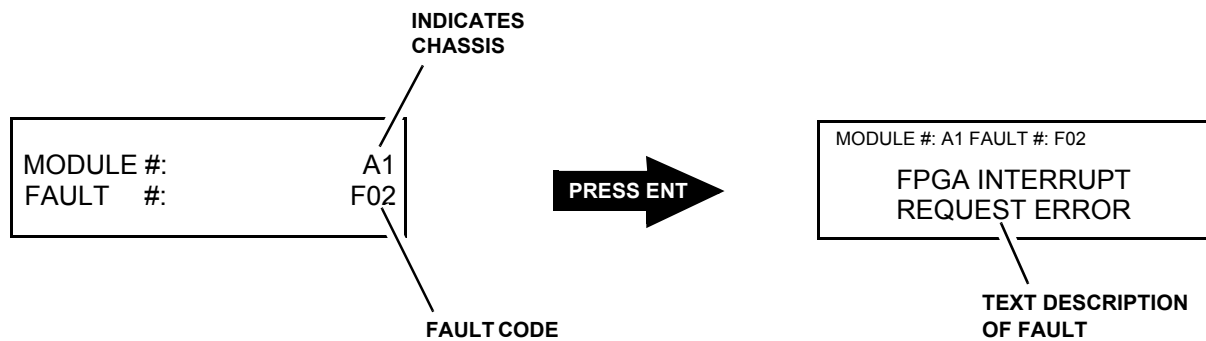

Figure 5-1. Sample Fault Code Display
- The self-test has been run and a fault code has been identified by the AN/PRC-150(C). (See Figure 5-1.)
- The observed degraded operation suggests that the AN/PRC-150(C) is faulty.
All system BIT faults are reported through the KDU. The first two characters of the module code (for example, the “A1” in “A1 F02” shown in Figure 5-1) identify the faulty MP radio chassis. A1 identifies a faulty MP, A4 identifies a faulty external power amplifier, A5 or A6 identify a faulty pre/postselector, and A7 identifies a faulty RF-5382H Antenna Coupler.